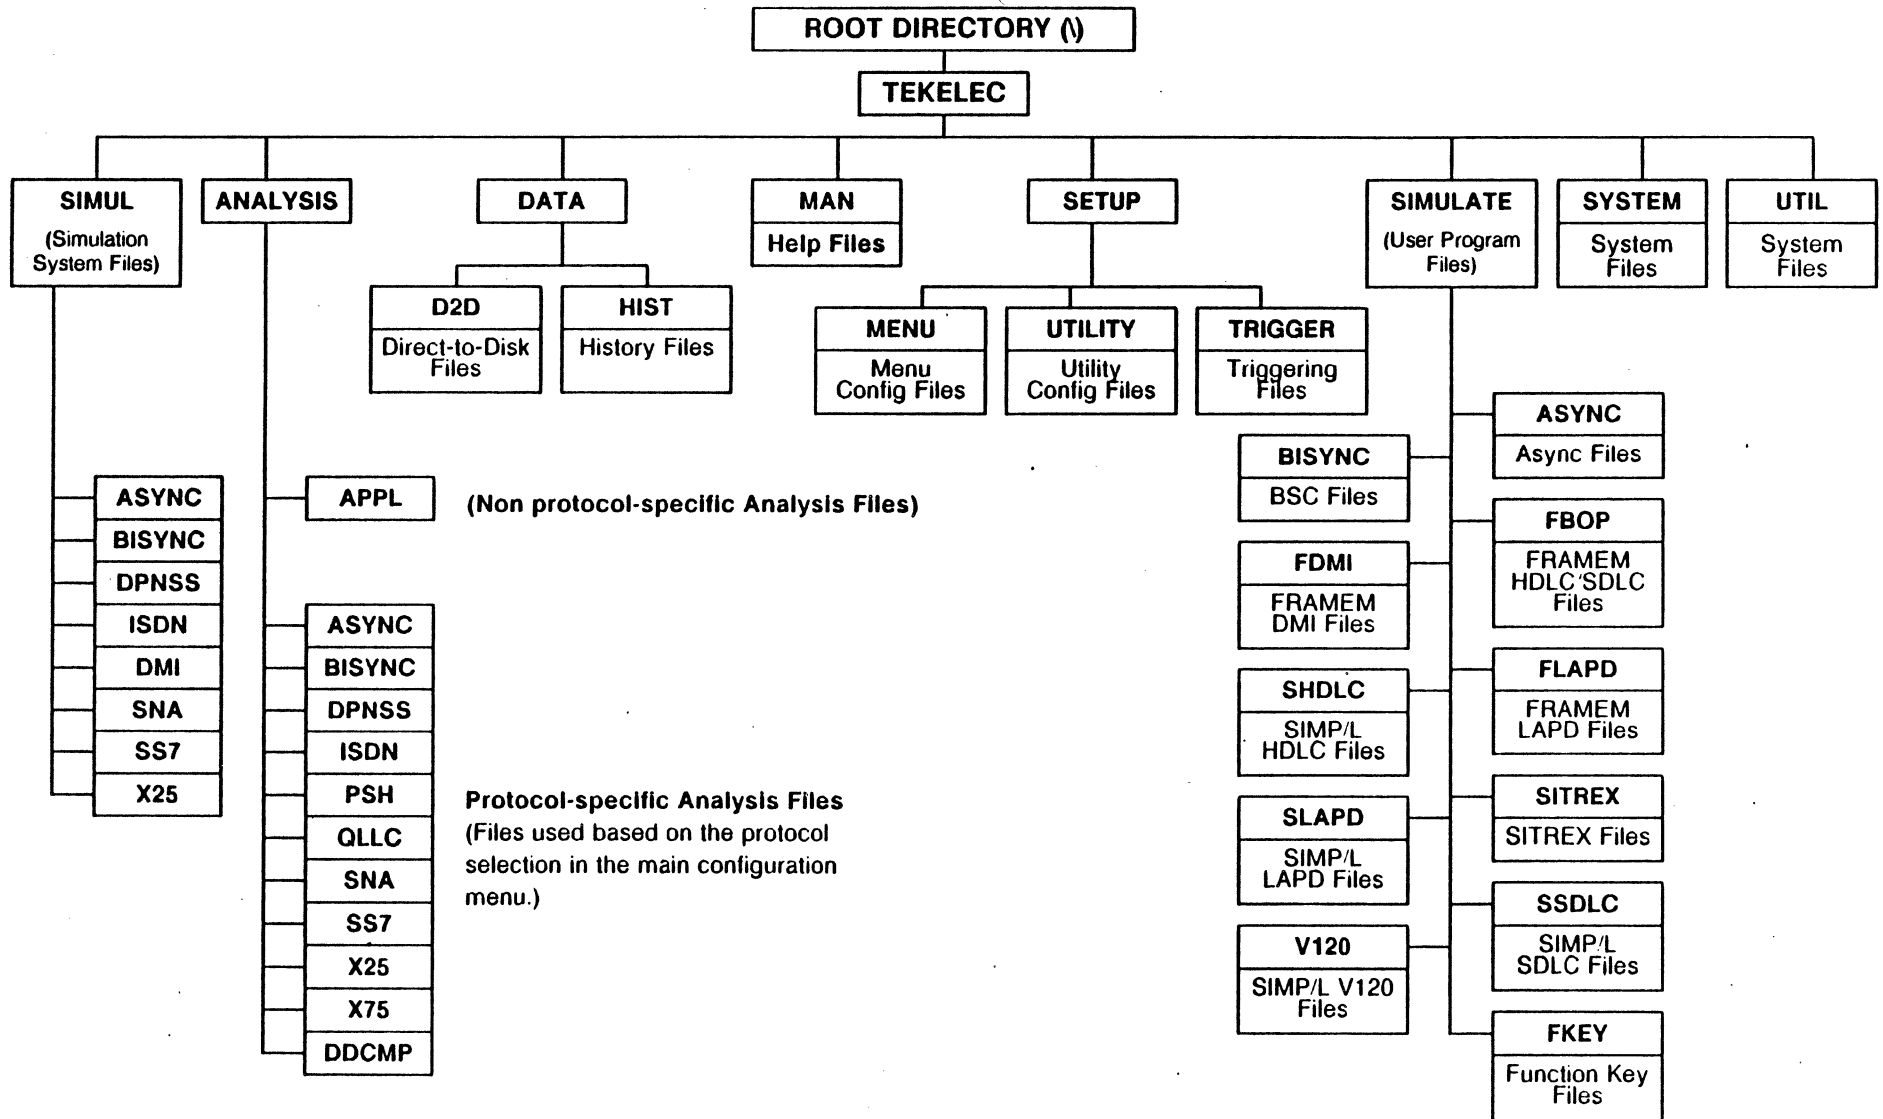

Figure 10.1: Chameleon 32 Hard Disk Directory Structure
The Chameleon hard disk has the directory structure shown in Figure 10.1. The root directory can contain a maximum of 140 files. The other directories can contain a maximum of 600 files.
- The file is copied to one of the directories below (xxxx is one of the subdirectories shown in Figure 10.1):